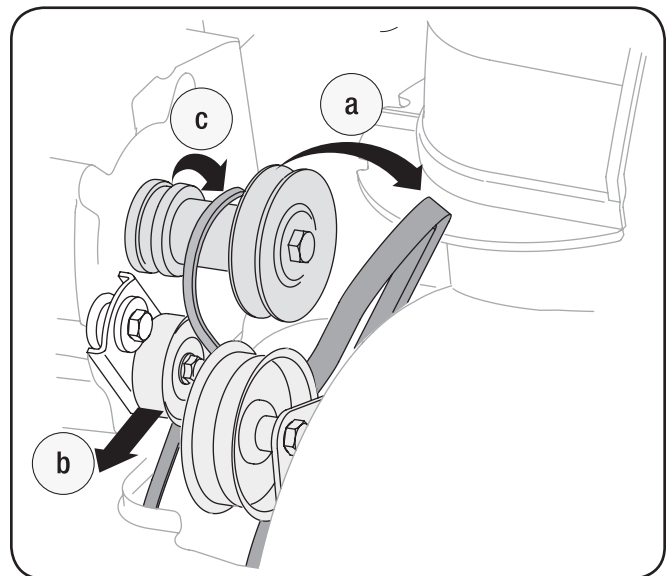

Figure 7-6
3. Remove the belt as follows. See Figure 7-6: